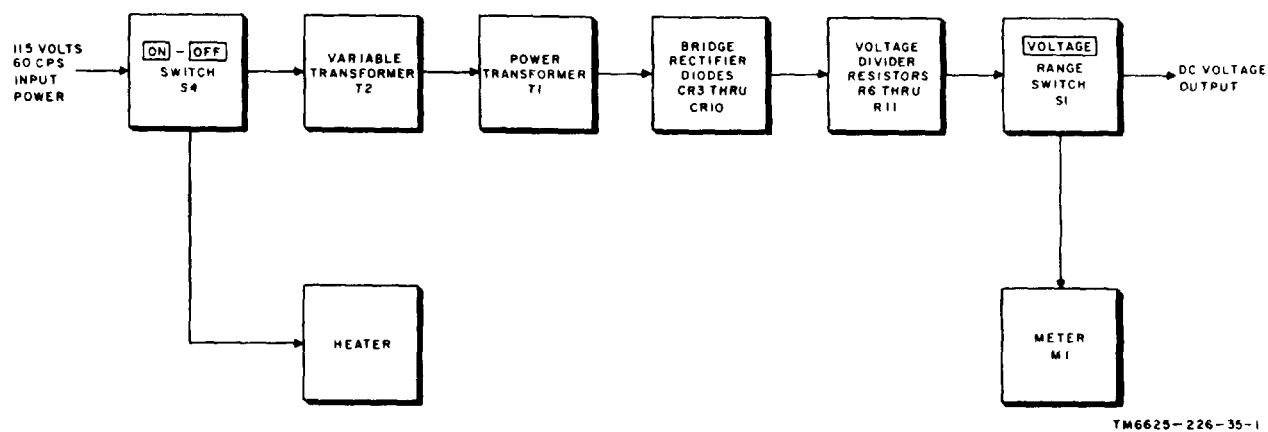

Figure 1. DC VOLTS circuit, block diagram.
2. DC VOLTS Circuit Block Diagram Analysis (fig. 1)